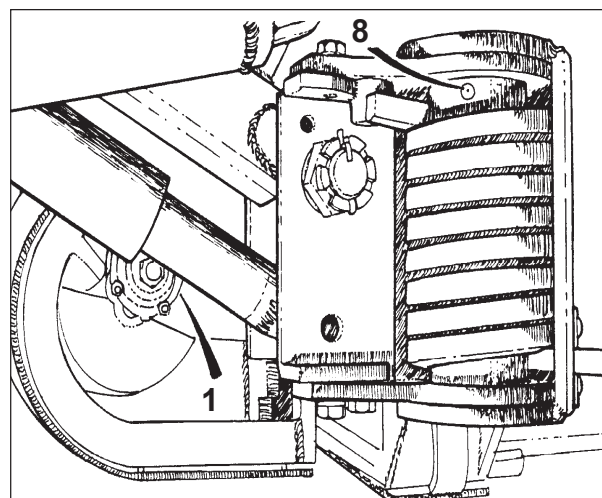

FIGURE 8
1. Pitman bearing (2500 & 3500 models) Figure 8
8. Spring release pin (2500 & 8500 models) Figure 8